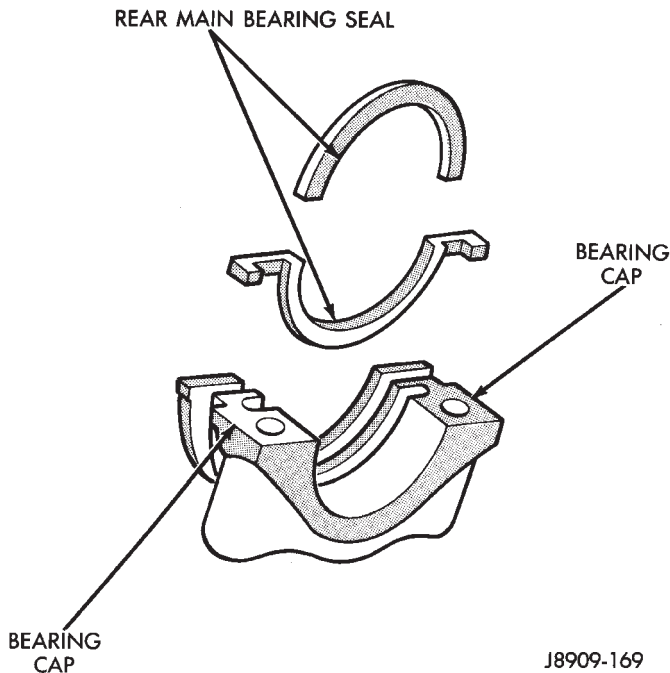

Fig. 59 Rear Main Bearing Oil Seal
- (1) Wipe the seal surface area of the crankshaft until it is clean.
- (2) Apply a thin coat of engine oil.
- (3) Coat the lip of the seal with engine oil.
- (4) Carefully position the upper seal into the groove in the cylinder block. The lip of the seal faces toward the front of the engine.
- (5) Place the lower half of the seal into bearing cap No.7 (Fig. 59).
- (6) Coat the outer curved surface of the lower seal with soap and the lip of the seal with engine oil (Fig. 59).